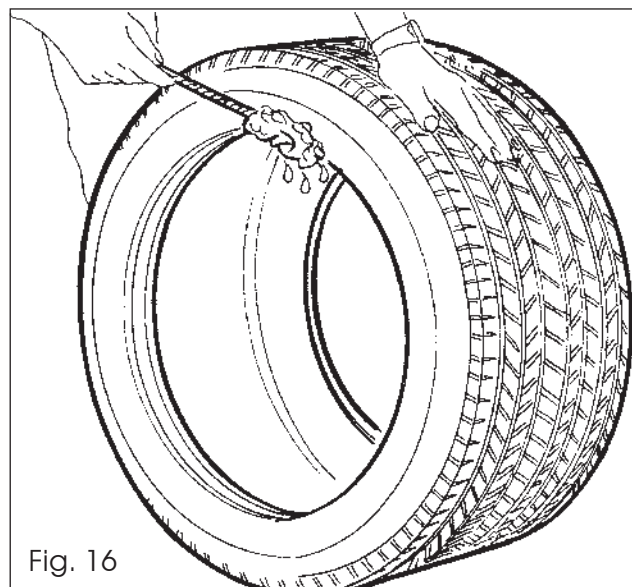

Fig. 16
- ❑ Apply a liberal amount of tire manufacturer approved rubber lubricant to both beads before attempting the mounting operation (Fig.16).